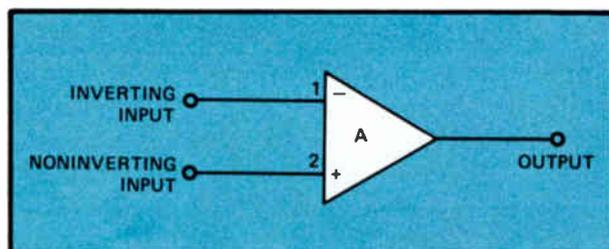

Figure 6. Operational amplifier symbol.
The symbol for an op amp is shown in Fig.6. Input 1, marked with a  $-$  sign, is the inverting input and input 2, marked with a  $+$  sign, is the noninverting input. The letter A stands for the gain of the op amp. If we apply an input signal to the amplifier, an output signal will be generated. The input signal will be amplified by an amount equal to the gain A of the amplifier. If the input signal is very small, it will appear greatly enlarged at the output because of the high gain.
- 7 In Fig.6, what does the letter A in the center of the triangle indicate?